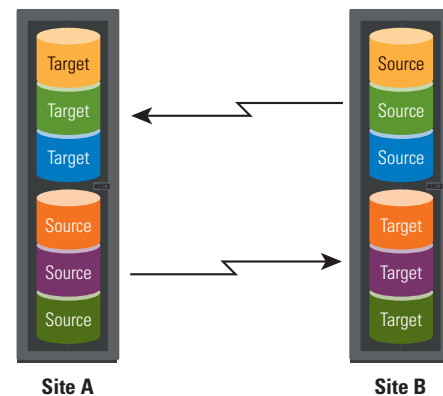

Figure 3. Bidirectional mirroring
**Bidirectional mirroring.** Bidirectional mirroring (see Figure 3) allows arrays to function as both sources and targets, helping reduce the cost of disaster recovery in distributed environments and providing increased flexibility in enabling rapid recovery.